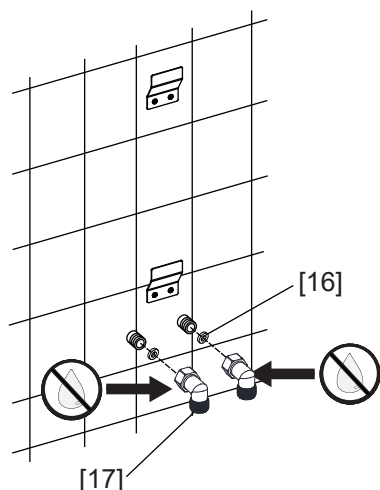

Fig 6.1
- 6-1** Install **Washers [16]** and **Elbow Fittings [17]** to the outlet. Adjust the direction of the **Elbow Fittings [17]** and tighten them. **DO NOT OVER TIGHTEN!** (Fig 6.1)